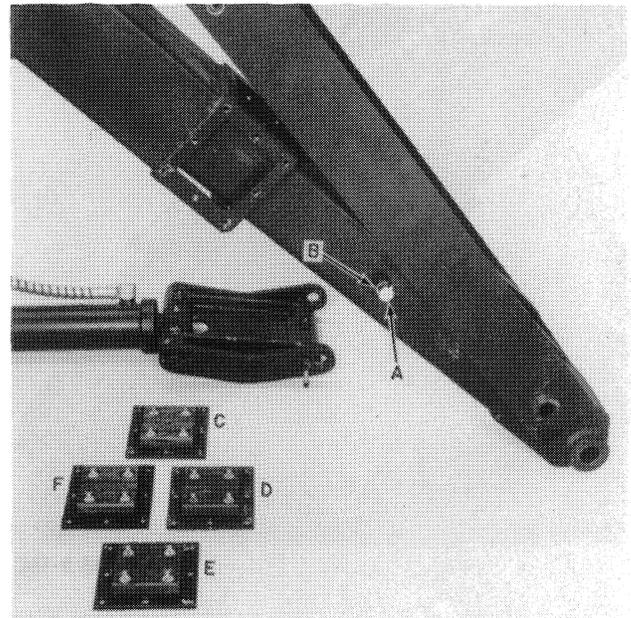

FIGURE 2-15B
4. Raise the boom and extend the dipper extensions until the lower extendable dipper cylinder pin, A, and snap ring, B, Figure 2-15B, can be removed. Lower the boom until the bucket just rests on the floor. Use the hydraulic system to manipulate the cylinder so the pin can be driven out.
5. Remeasure the clearance between the lower wear pads and the side of the dipper (crowd) tube at A and at B on the top or bottom, Figure 2-15C. Record these measurements as they are needed to determine the shims needed when replacing pad support plates, C, D, E and F, Figure 2-15B.
6. Pivot the bucket cylinder over the bucket and remove the eight socket-head setscrews in support plates, C, D, E and F, Figure 2-15B. The setscrews are held with Loctite, so use a good allen wrench.
12. Use the figures recorded in step 5 to determine the shims required between the wear pads and the support plates, C, D, E, and F, Figure 2-15B. Use 0.060" (1.5 mm) and 0.105" (2.67 mm) shims between the plates and the pads to obtain the required 0.035"-0.065" (0.89 mm-1.65 mm) clearance side to side and top to bottom. Install the pads with the socket-head setscrews with Loctite 242 on the threads. Install the plate supports, C, D, E and F, Figure 2-15B, with socket-head setscrews with Loctite on their threads.
14. Install the lower extendable dipper cylinder pin, A, and snap ring, B, Figure 2-15B.